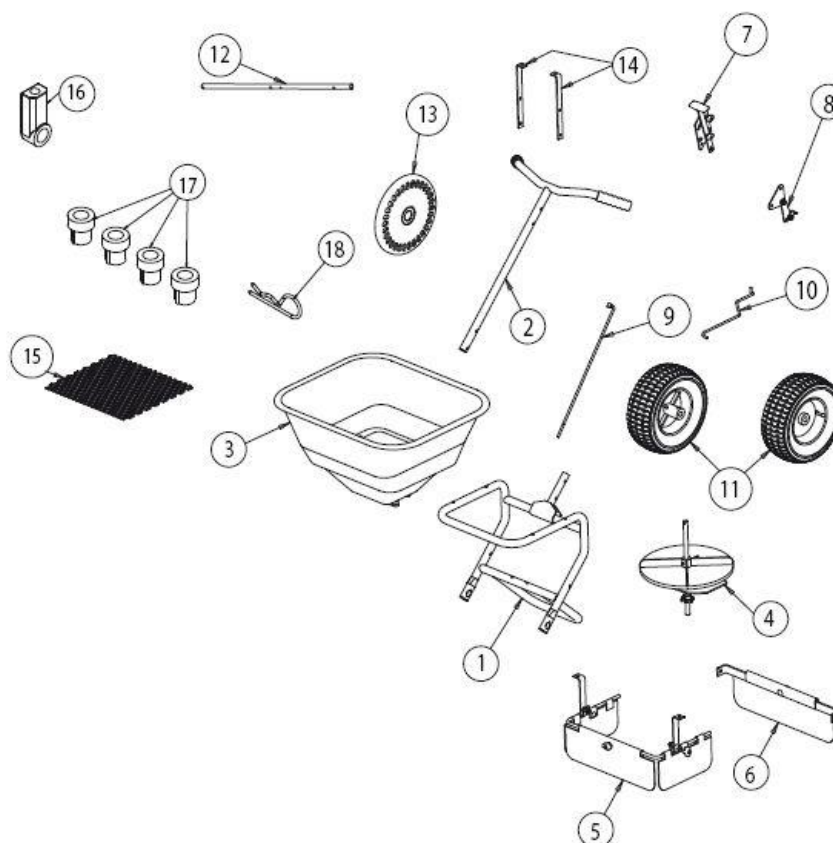

**Figure 6**
- E. Attach the Linkage Plate Assembly and Handle to the Frame using two M6x40 bolts as shown. Figure 6 shows the lower linkage assembled (for reference).